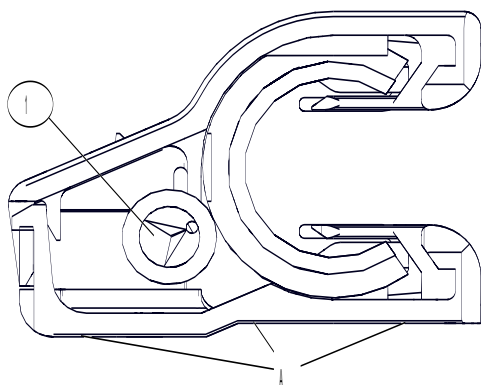

Fig. 77: The electrical connection is outside the center
The flat plug connections or crimp connections are soldered outside the center. The cap must therefore be installed accordingly: The straight side of the cap (A) (one-piece or two-piece) must be located where the connection (1) is located (see Fig. 77).